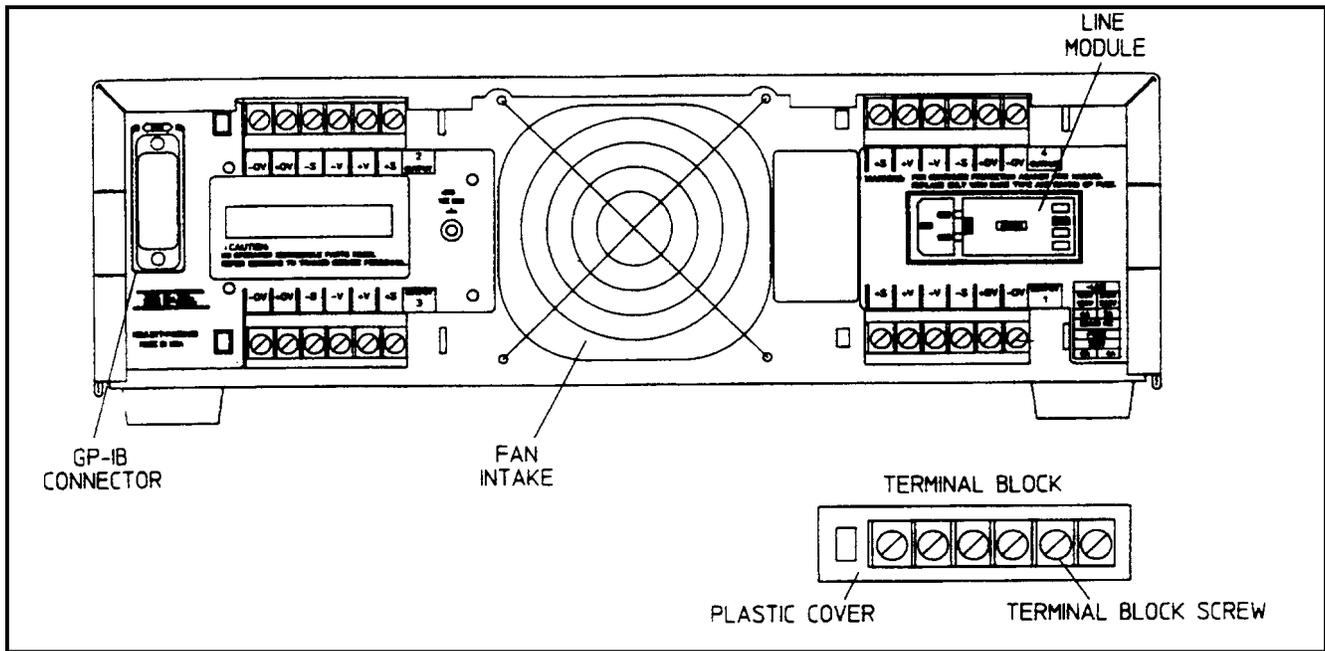

Figure 2-2. Rear Panel Detail (Agilent 6626A Shown)
You can operate this power supply from a nominal 100 V, 120 V, 220 V or 240 V single phase power source at 47 to 66 Hz. The input voltage range, maximum input current, high line inrush current (PK), and the fuse required for each of the nominal inputs are listed in Table 2-1. You can check the line voltage setting of your supply by examining the door on the line module. This is located on the rear panel of your supply as shown in Figure 2-2. The red mark that appears in one of the four windows on the line module indicates the line voltage setting for which your supply is set.
The GP-IB connector on the rear panel connects your power supply to your computer and other GP-IB devices (see Figure 2-2). Accessories (page 12) in Chapter 1 lists the cables and cable accessories that are available from Agilent Technologies. An GP-IB system can be connected together in any configuration (star, linear, or both) as long as the following rules are observed